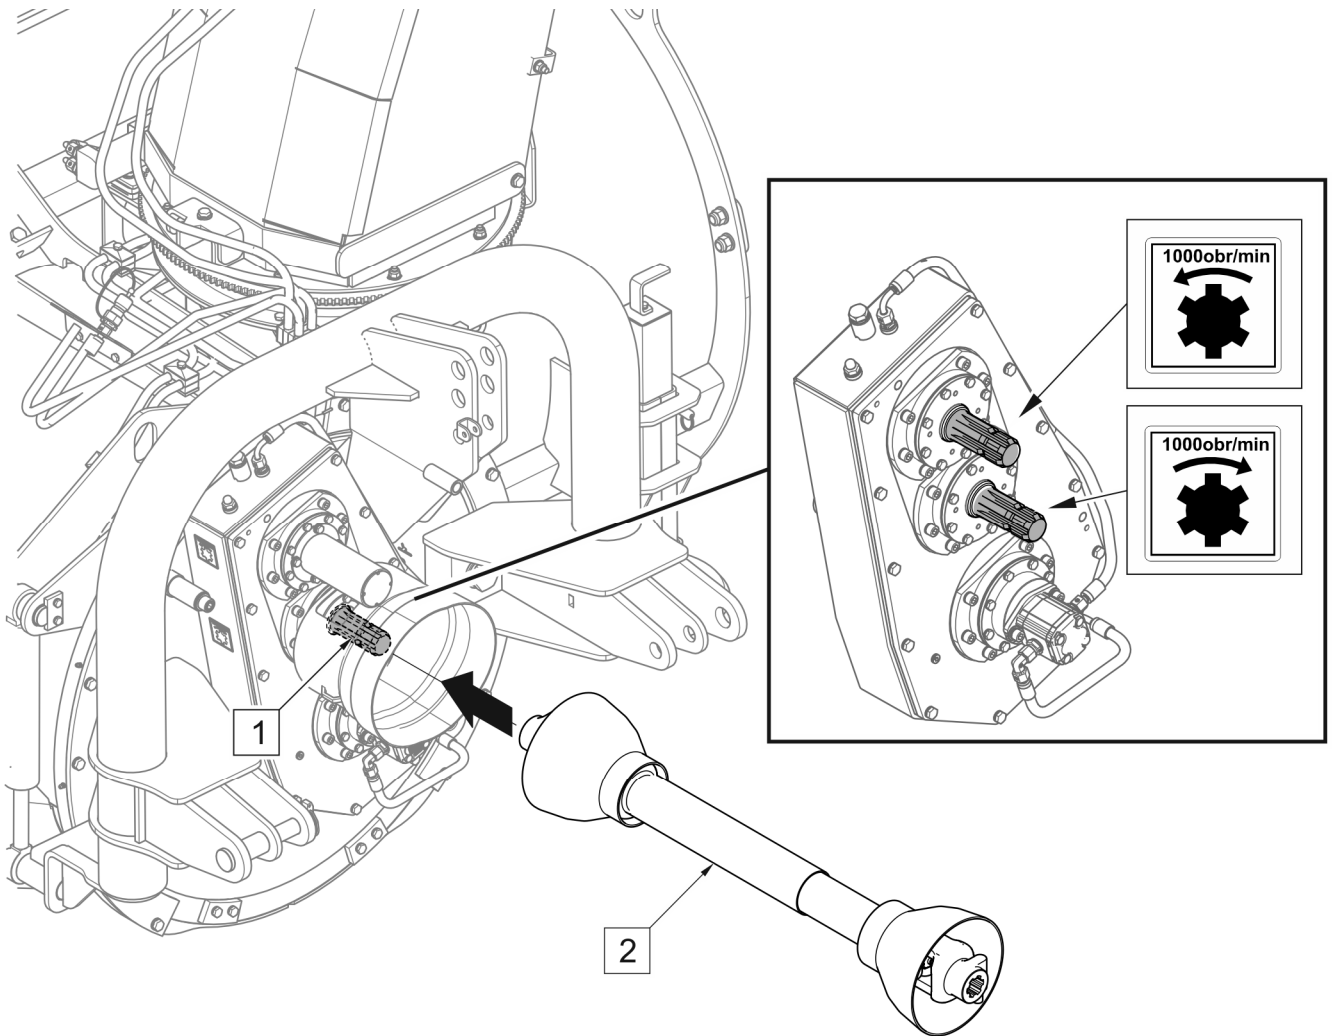

FIGURE 4.2 Connecting PTO shaft (machine mounted on the carrying vehicle's front three point linkage)
(1) - gear shaft; (2) - PTO shaft (additional equipment)
Depending on the rotation direction of the carrying vehicle's PTO, the PTO shaft (3) must be connected to the appropriate gear shaft (1) or (3) (FIGURE 4.2). The upper gear shaft turns counterclockwise while the lower shaft turns clockwise (*looking at the shaft front*).